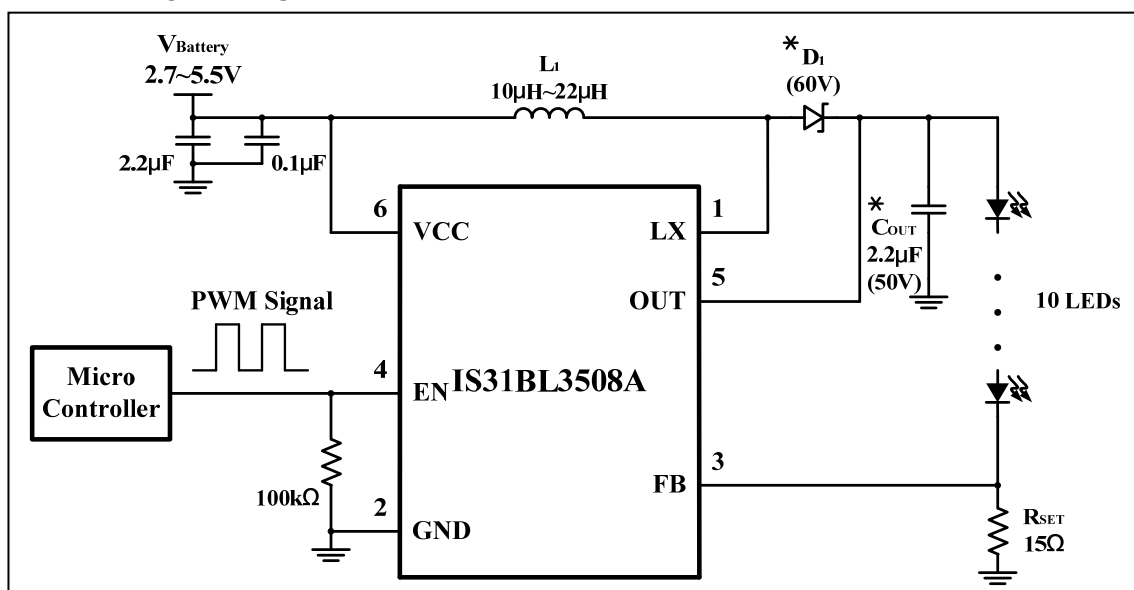

Figure 1 Constant Current White LED Driver Using PWM At The EN Pin To Control Intensity
The choice of the inductor value will affect the performance of the device. Large value inductors will reduce the current ripple in the inductor, thus reducing output voltage ripple. However large value inductors of the same current rating, typically also have larger DC resistance, thus reducing the system efficiency. For example in Figure 1, the loads are 10 WLEDs and output current is 20mA. The maximum input current can reach 600mA. For this application a 10μH 700mA inductor is sufficient.
When the IS31BL3508A is used for LED driving applications (Figure 1), the LED current flows through the external feedback resistor R_{SET} to regulate the LED current. The internal feedback regulation point is 0.3V. The maximum LED current may be calculated by the following Equation (1).
The EN pin of the IS31BL3508A can accept a PWM signal to implement LED dimming (Figure 1). LED current may be computed using the following Equation (2).